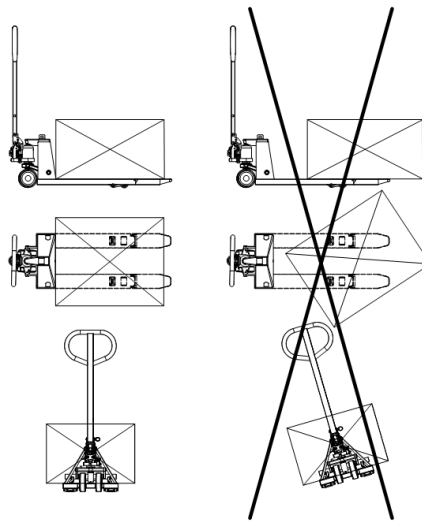

Figure 8
5.4 Correct loading mode is shown in Figure 8.